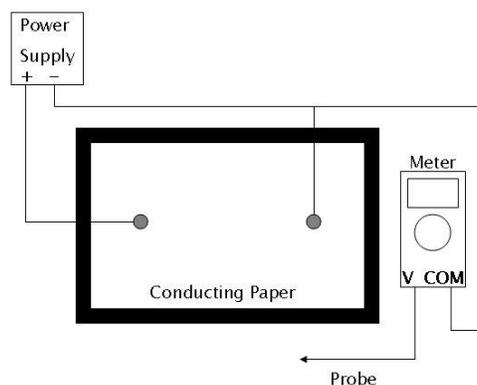

Figure 1: Laboratory setup
1. Set up the apparatus as shown in Figure 1 below. Plastic push pins are used to hold the conducting paper in place. Metal push pins must be used to act as contact posts to the electrode configurations drawn on the conducting paper. Note: For best results, be sure that the metal push pin is pressed firmly against the silver paint.